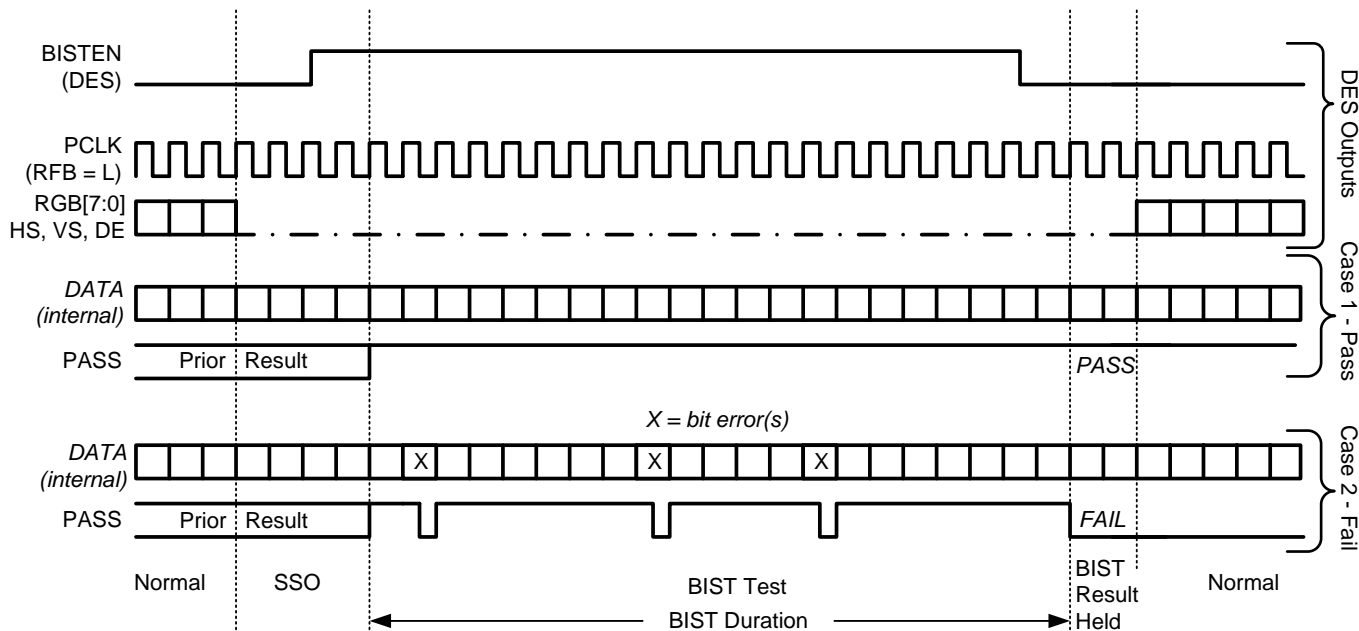

Figure 19. BIST Waveforms
Step 4: The Link returns to normal operation after the deserializer BISTEN pin is low. Figure 19 shows the waveform diagram of a typical BIST test for two cases. Case 1 is error free, and Case 2 shows one with multiple errors. In most cases it is difficult to generate errors due to the robustness of the link (differential data transmission etc.), thus they may be introduced by greatly extending the cable length, faulting the interconnect, reducing signal condition enhancements (Rx Equalization).